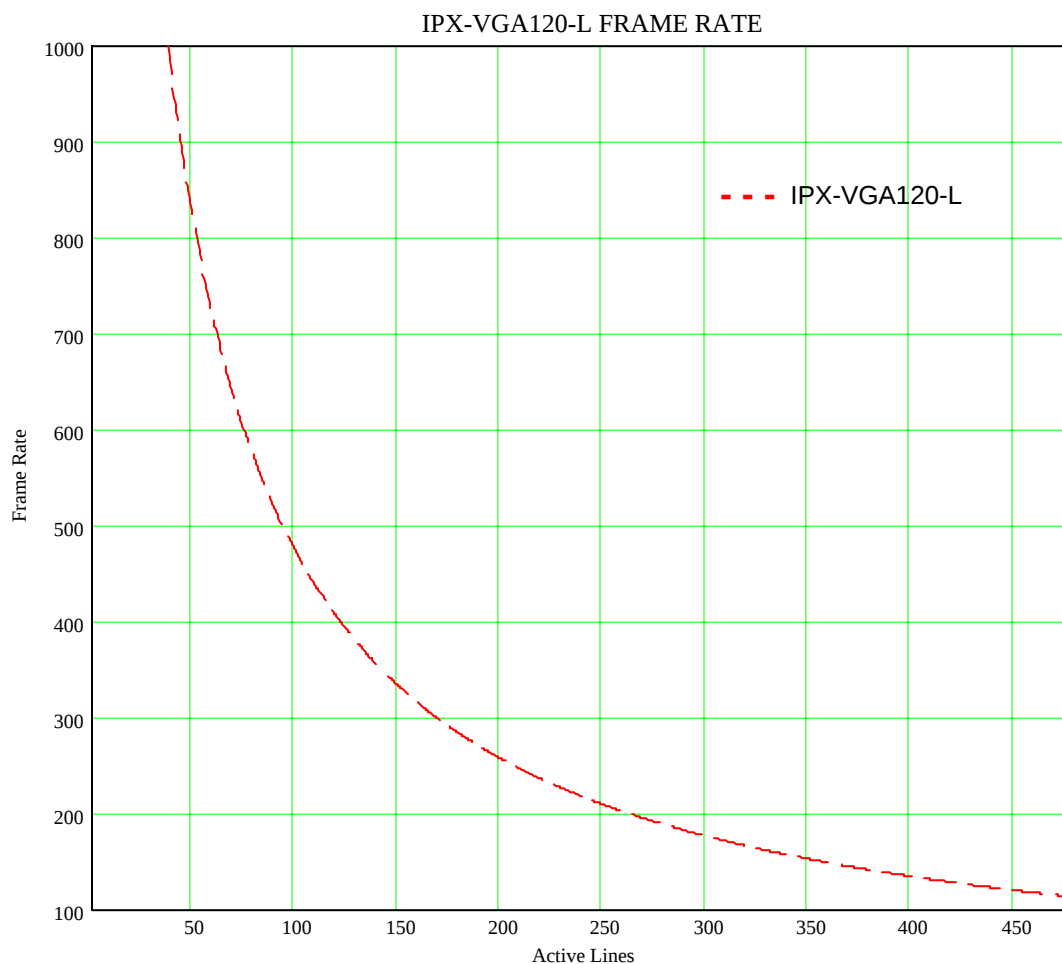

Figure 2.27 - Frame Rate vs. Vertical Window Size (IPX-VGA120-L)
The resulting frame rate (FR) for each camera can be approximately calculated using formulas 2.1a – 2.1f, where WS is the window size. The window size is the number of lines in the window ($WS = \text{'End Line'} - \text{'Start Line'} + 1$). Figure 2.27 – 2.32 show a graphical representation of the formulas.